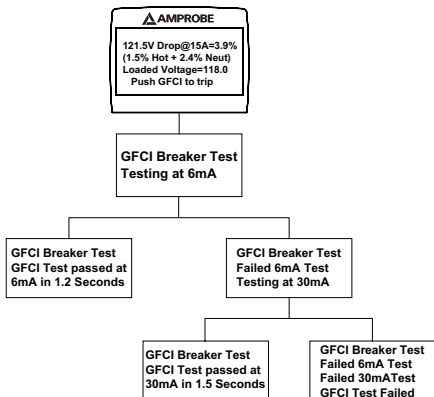
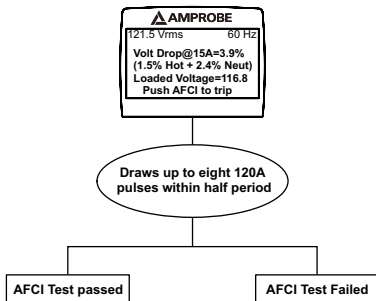

Fig.4
Fig.5
5. Read the test results. For GFCI and AFCI, refer to fig.4 and fig.5